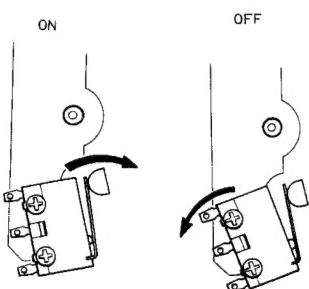

Fig. 23
1) Rotate the micro switch to the right and when the switch is in the ON position, rotate the microswitch back to the left. Temporarily fix it at the position where it goes off. (See figure 23)